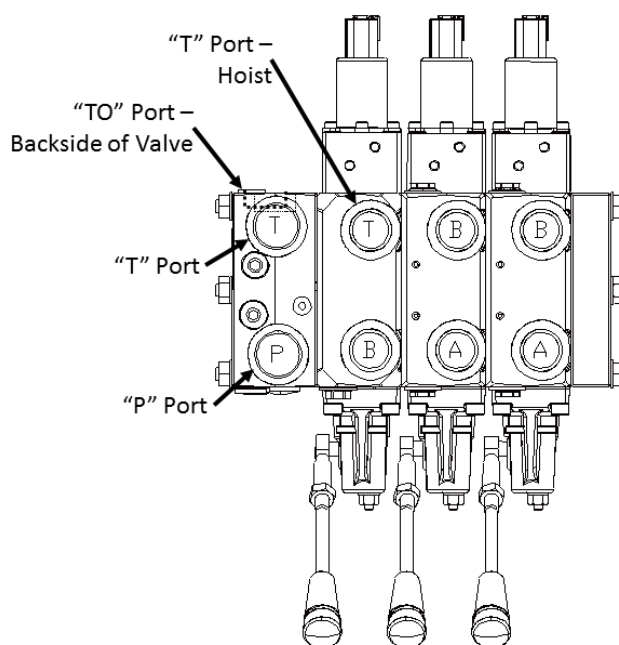

Figure 4.6.1.A - 3 Section PVG Valves - Port Locations
7. Connect a $\frac{1}{4}$ " sized hose with swivel fitting from the tank return port located on the lower subframe to the tank. See Figure 4.6.1.B for the subframe port location.